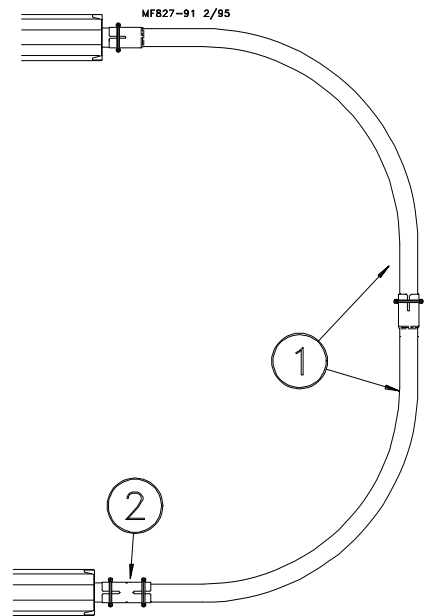

Figure 26. Elbow Installation (Top View)
13. Install a Hanger on the incoming end of the elbow. See Figure 26.
14. Insert the tube section of the End Cap into the belled end of a 90 degree elbow, as shown in Figure 26. Use a U-bolt style clamp to secure this joint...however, do not fully tighten clamp until the elbows are fully installed and leveled.
15. Loosely fasten another 90 degree elbow to the first by sliding the belled end over the straight end of the existing elbow. See Figure 26.
18. Fasten the End Cap and trough to the second 90 degree elbow, using a coupler and (2) U-bolt style clamps to secure this joint. However, do not fully tighten clamps until the elbows are fully installed and leveled.
19. Install a Hanger on the outgoing end of the trough, as shown in Figure 26.